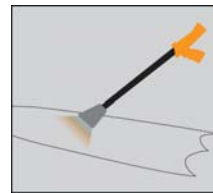

Figure 4:
3. Ensure that no moisture is present prior to applying the PreMark[®] SP Sealer onto the pavement surface. Surface moisture is not often visible so you should assume that some moisture is present. Remove moisture by drying the application area with a propane fueled torch such as the Flint 2000EX[™] or Magnum Heat Torch. *See Figure 4.*